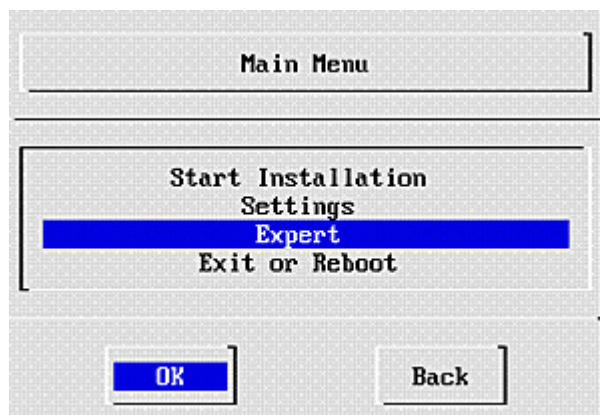

Figure C-6 Main Menu
- The Main menu (Figure C-6) is displayed. Select **Start Installation** and click **OK**.